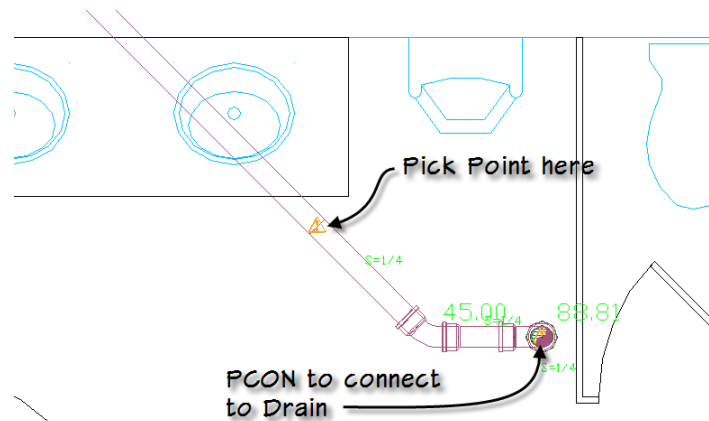

Figure 6.65
25. Click a point in the Men's restroom approximately under the right most sink (see Figure 6.65).